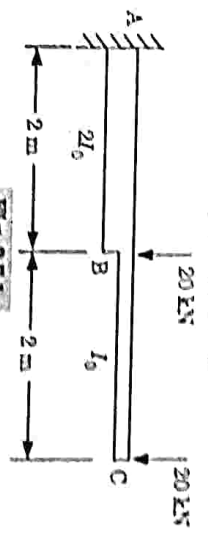

Fig. 3.7.1.
- Q.7. Determine the deflection and rotation at the free end of the cantilever beam shown in Fig. 3.7.1. Use unit load method. Given  $E = 2 \times 10^5 \text{ N/mm}^2$ , and  $I = 12 \times 10^6 \text{ mm}^4$ .